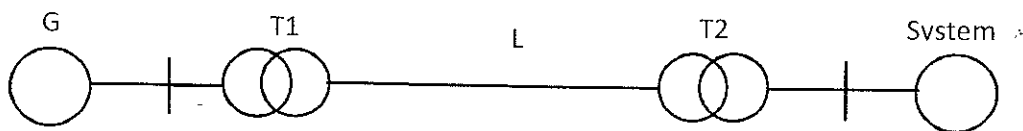

Figure Q1
- b) A synchronous generator delivers power of 35 MW to a large system via two transformers and a transmission line as shown in figure Q1. Maximum power of the generator that can be delivered to the system is 60 MW. The generator loses synchronism due to sudden increase of its output power. Determine possible range of the output power of the generator and corresponding power angle [hint: use equal area criterion] [16 marks]